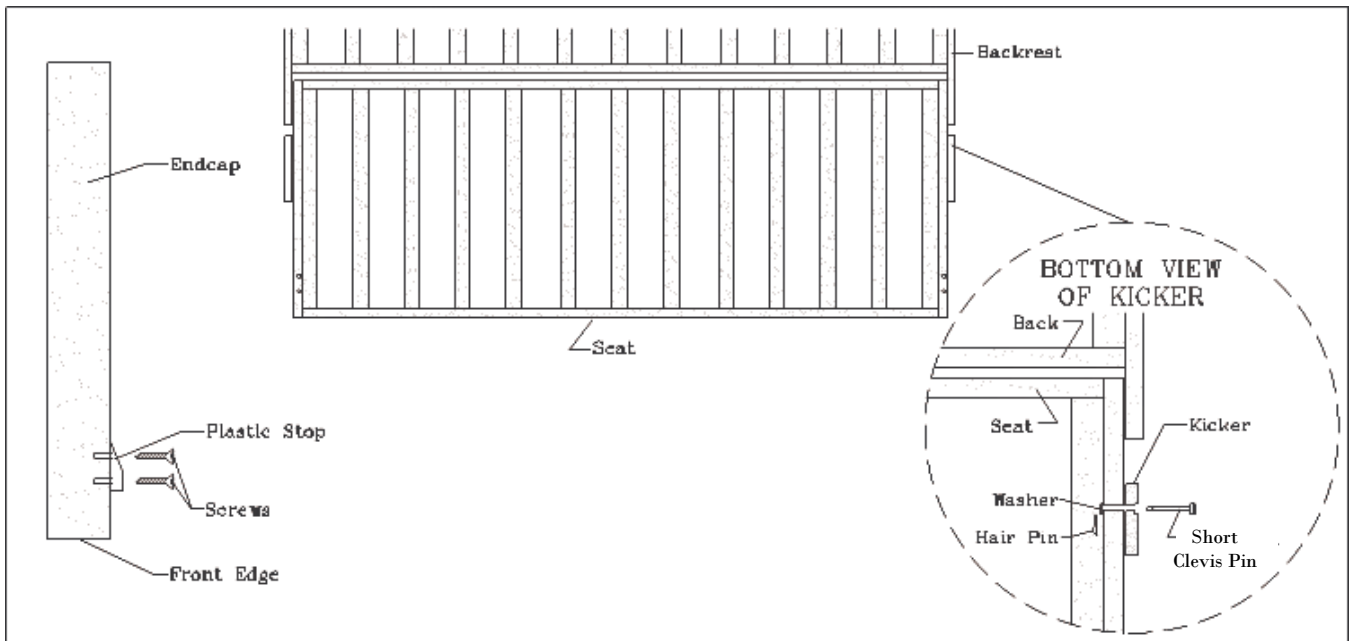

Figure 4
- 5) Locate kickers. Insert a short clevis pin through side of kicker. Push short clevis pin through remaining hole inside of seat. Secure short clevis pin with flat washer and hair pin. Repeat for opposite side (Figure 4).
- 6) Locate plastic stops. Locate four small holes on bottom of seat (2 at each end). Insert stops into frame (Figure 4). Use Phillips screwdriver to set screws. Do not use a screw gun and be careful not to over tighten screws.